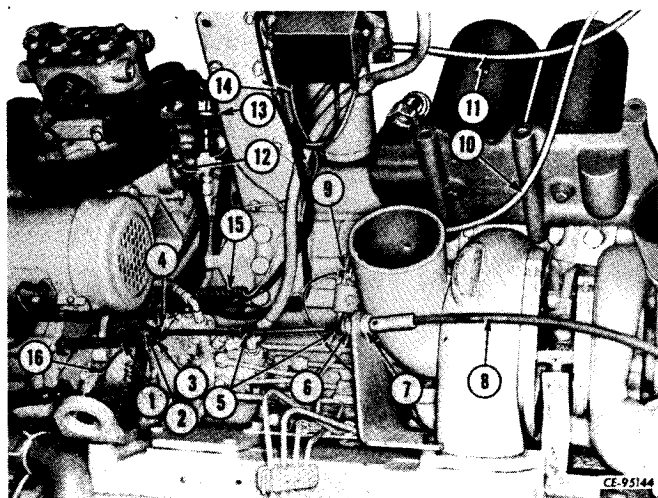

Figure 2-13
From the top of the engine, disconnect accelerator linkage by removing spring (1, Fig. 2-13), ball joint and nut (2), spring return bracket (3) and jam nut (4) from end of control cable (8). Remove cable boots (5), cable nut and washer (6) and pull control cable out through support bracket.